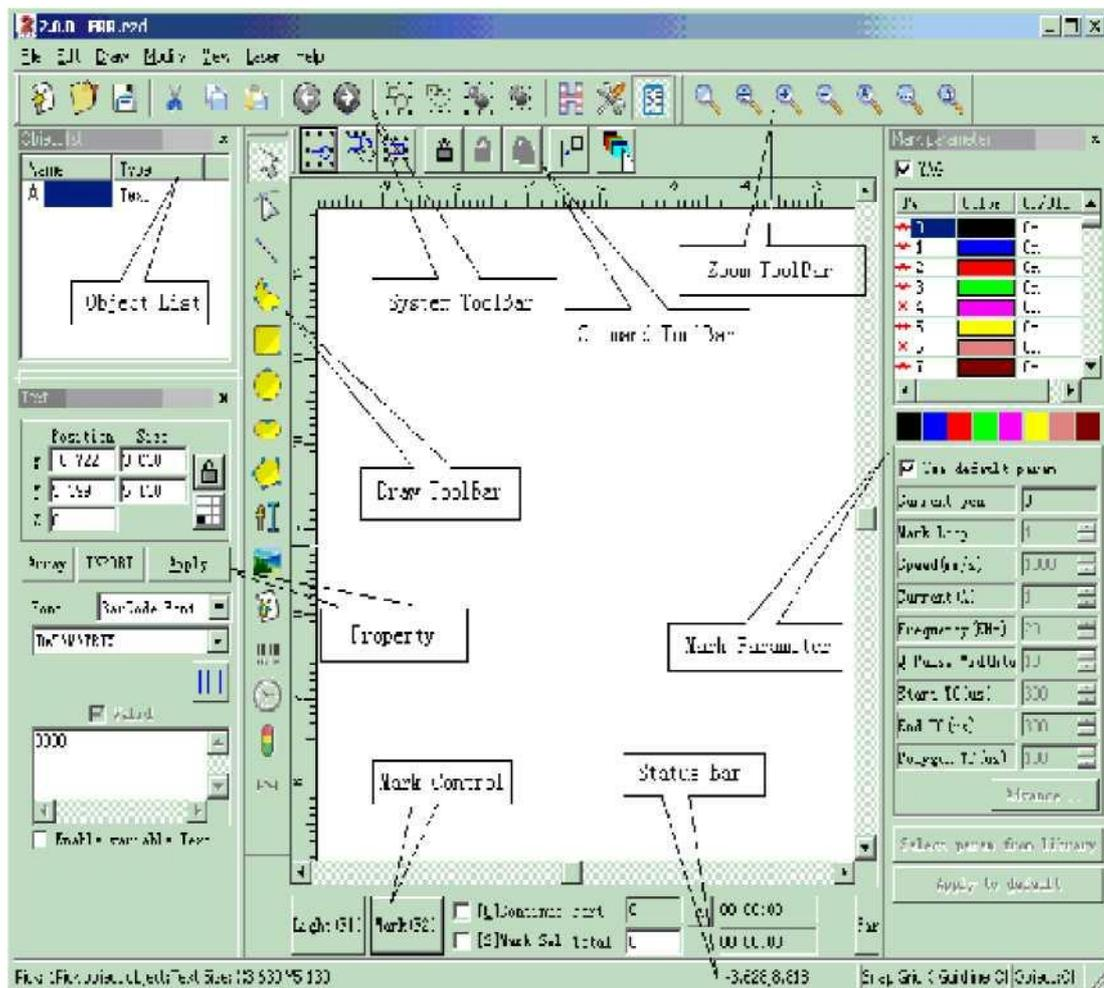

Figura 1-2 Ventana principal de EzCad2
• Interfaz principal (Figura 1-2)